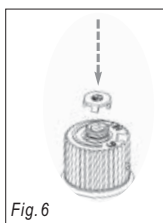

Fig.6
- 14) Re-assemble the black protection cap (Fig. 6).